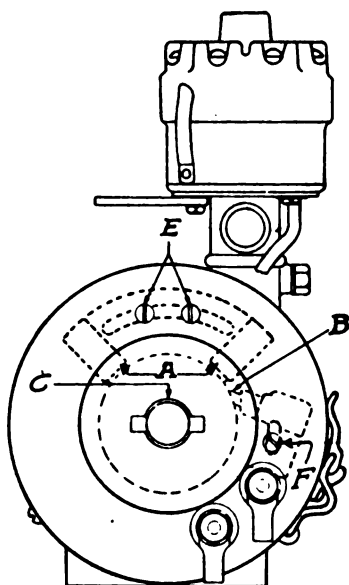

Fig. 293. Diagram of Arrangement of Brushes on Leece-Neville 6-Volt Generator
**Regulation.** Generators of the 1915 and 1916 models are controlled by armature reaction through a third brush, the field coils receiving their exciting current from the armature through this brush. The position of the latter on the commutator is shown at B, Fig. 293. A slight rotation of this brush relative to the com-
*Regulating Brush.* In case the generator output falls off as shown by its inability to keep the battery properly charged, the battery itself and all connections being in good condition, and a proper amount of day running being done to provide the necessary charging current, the trouble may be in the regulating brush of the generator. Test by inserting an ammeter, such as the Weston portable or any other good instrument with a scale reading to 30 amperes, in the line between the generator and the battery. Run the engine at a speed corresponding to 20 miles per hour, at which rate the ammeter should record a current of approximately 15 amperes. If the ammeter needle butts against the controlling pin at the left end of the scale instead of showing a reading, it indicates that the polarity is wrong, and the connections should be reversed. Should there be no current whatever, the needle will stay perfectly stationary except as influenced by vibration. If the ammeter shows a reading of less than 15 amperes, the current output of the generator may be increased by loosening the set screw holding the third brush and rotating the brush slightly in the same direction as the rotation of the armature. This should be done with the generator running and the ammeter in circuit, noting the effect on the reading as the brush is moved. To decrease the output, it should be moved in the opposite direction until the proper reading is obtained, after which the brush must be sanded-in to a good fit on the commutator. It may sometimes occur that sufficient movement cannot be given the third brush without bringing it into contact with one of the main brushes. This must be avoided by loosening the two set screws *E*, Fig. 293, and moving the main brush holder away
To increase the output of the generator, rotate the third brush in the direction of rotation of the armature; to decrease the output, move the brush against the direction of rotation. Adjustments should be made with the engine standing. Loosen the screw at the rear of the commutator housing shown at the point *F*, Fig. 293. This releases the third brush holder, and the brush may then be moved in the direction desired. It should be moved only a short distance,